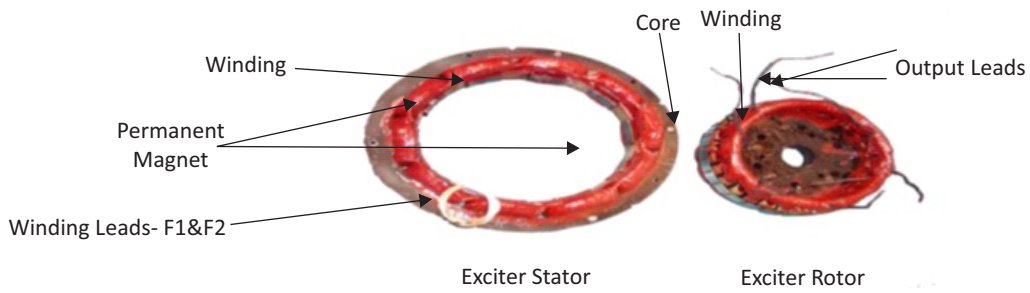

Fig. 2.12.29 Exciter Rotor And Stator
4. Explain the construction of the Exciter Rotor and Exciter Stator as shown in the figure below(Refer to Figure 2.12.29):